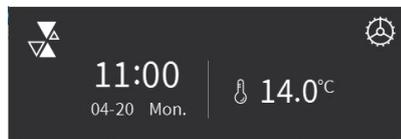

Fig. 2.3
- ④ When external temperature is configured, there is an "E" at the upper right corner of the icon; When internal temperature is configured, there is no "E" at the upper right corner of the icon, as shown in Fig.2.3;